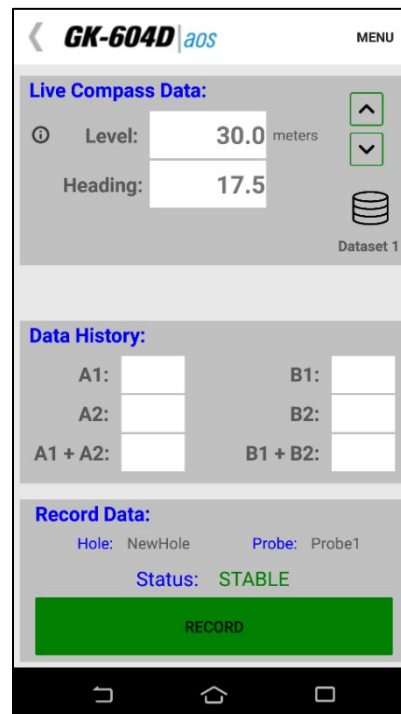

Figure 108 - Live Compass Data
- 7) With the compass enabled, a survey is performed as normal (see Section 3.2.1) and the compass heading can be displayed at any level by tapping on “MENU->View Compass Data”, displaying the screen shown in Figure 108.